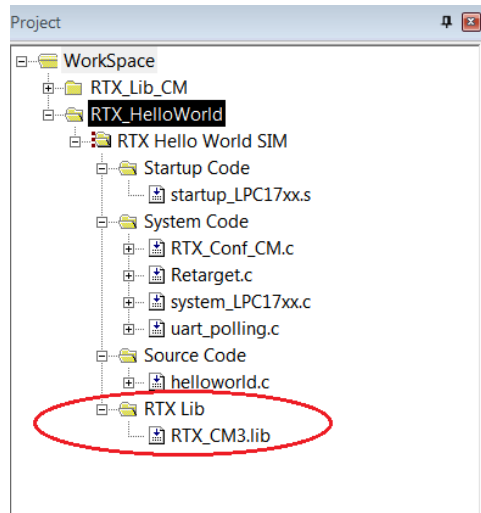

Figure 2.26: Keil IDE: Adding Your Own RTX Library
3. Add the RTX library we built (i.e. RTX_CM3.lib) to the project (see Figure 2.26).